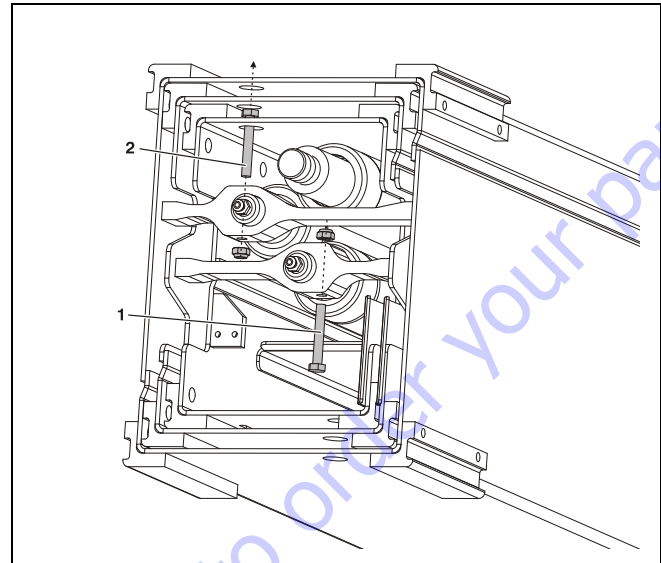

Figure 6-11. Hydraulic Cylinder Top End Bolts - Removal
8. Attach the cylinder rod of cylinder #1 and 2 into their anchor cross bars at the top of the mast assembly. Secure using the proper bolt and nut assembly. (See Figure 6-11.)